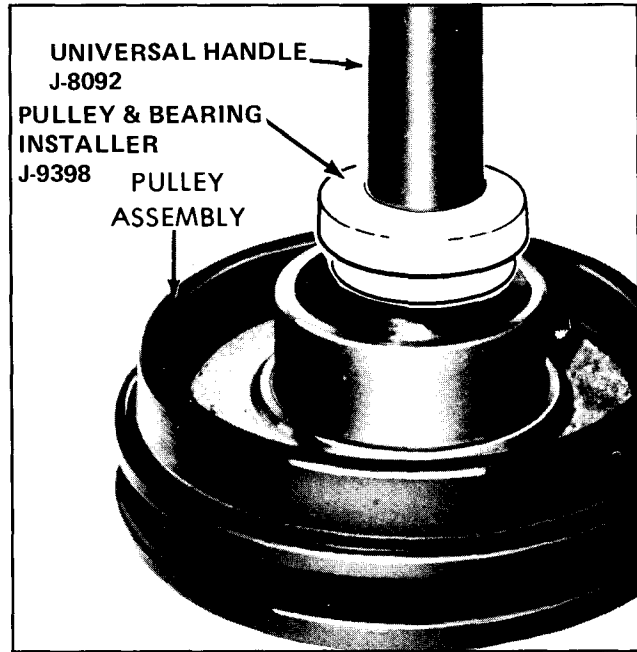

Figure 53—Removing Bearing from Pulley Assembly
4. Place pulley and bearing assembly on inverted Support Block J-21352 and, using Pulley Bearing Remover J-9398 with Universal Handle J-8092, drive Bearing assembly out of pulley (figure 53).